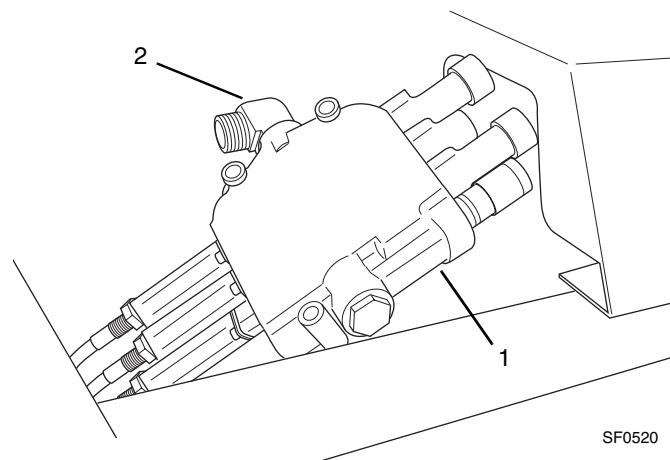

Figure 7-67 Main Control Valve Installation
5. Reassemble the main control valve (Fig. 7-67, 1) to the crossmember with the original three capscrews, and tighten securely.
6. Remove the hose fitting cap and hose plug, and reassemble the hose to the fitting (Fig. 7-67, 2) on the left side of the valve. Torque the hose (Refer to Section 2.8, "Torques").